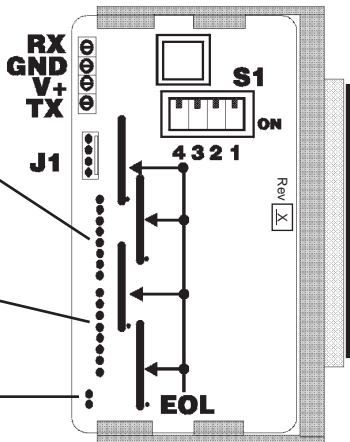

Figure 5 Interface PCB Layout & Connections
Only one wire per zone is required to connect the Interface Board to the Control Panel. All zones share a common ground connection. The common for each zone is the same as the power supply ground (black wire). As shown in Figure 5, the Red and Black wires are VC and Ground (respectively). The leads for zones 1 - 8 and 9 - 16 are color coded as shown in Figure 5. See the section on **Switch Settings** for optional configurations of zones 15 and 16.
NOTE: Version E and later of the SN913-I/O Interface Board does not require changing S1 (1) for programming, as required on previous versions. Refer to Figure 5 to determine the version level of your PCB.